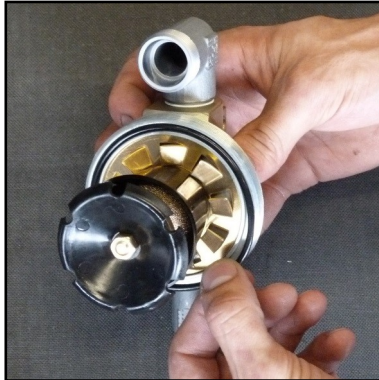

Fig. 4 - Change o-ring
- Change o-ring, previously grease new o-ring (Page 51, Fig. 4).